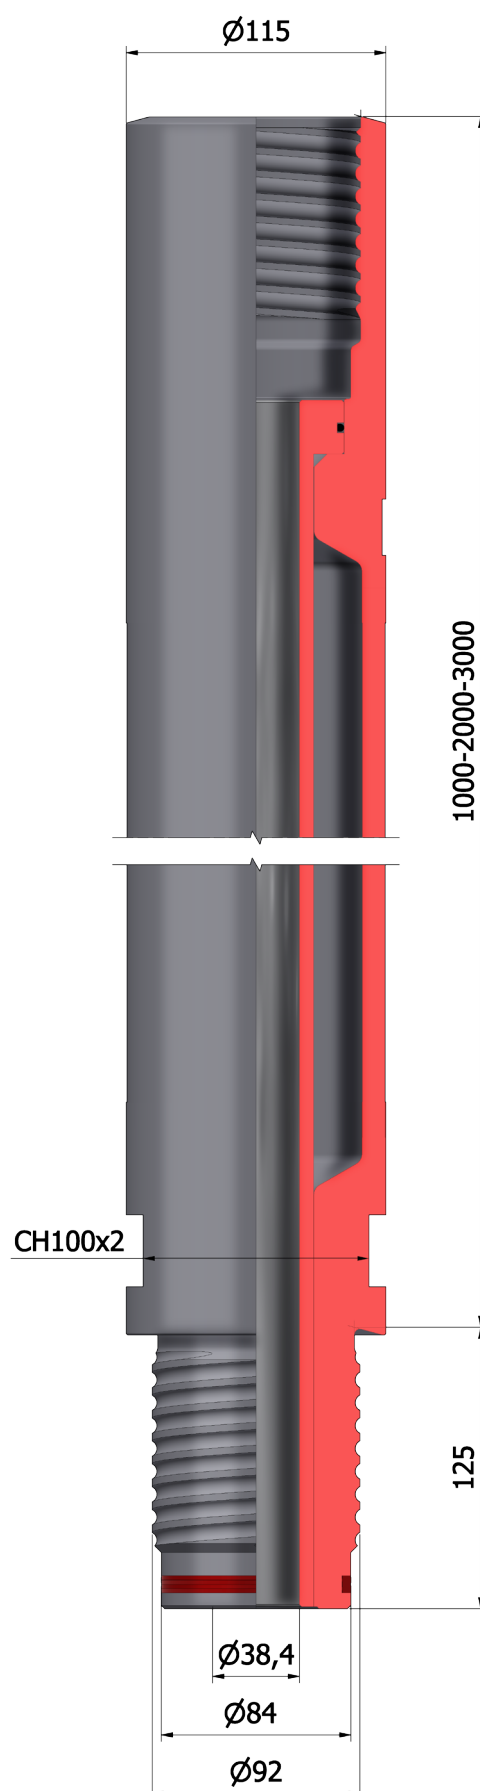

FIG. 3.7
D.114 JET RP ROD FOR TUNNELLING (REF. FIG. 3.7)